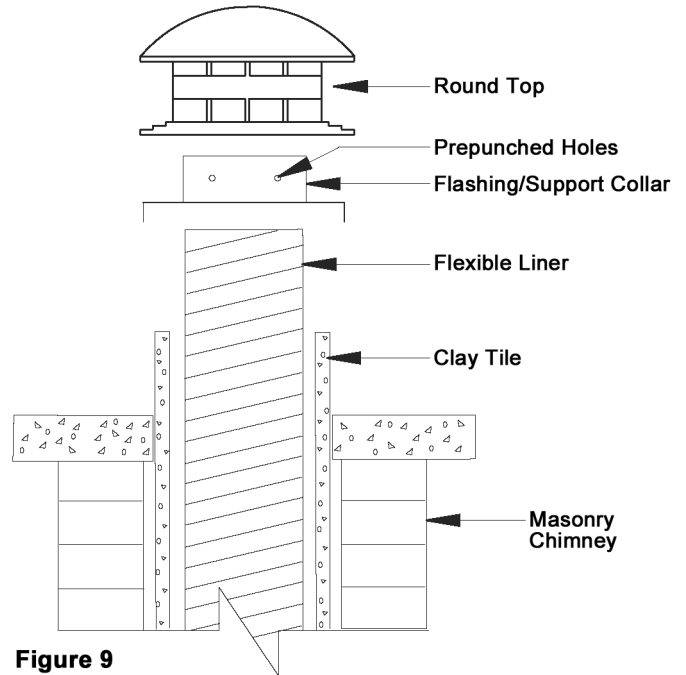

Figure 9
Pull enough of the Flexible Liner through the Flashing/Support assembly to be able to slide the Round Top into the Flexible Liner (see Figures 9 and 10).
Slide the Round Top and Liner back through the Flashing/Support assembly until the skirt of the Round Top comes in contact with the collar of the Flashing/Support assembly. Install the four (4) ¼" sheet metal screws (provided) through the prepunched holes in the Flashing collar (see Figure 9).